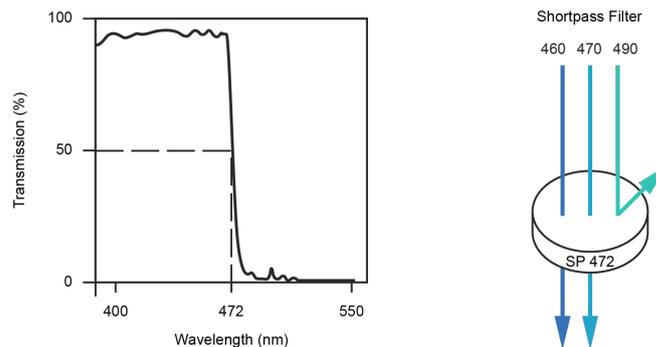

Figure A-6 472nm Shortpass Filter
Shortpass filters (SP) pass light with a shorter wavelength than the cutoff wavelength. For example, a 472nm shortpass filter allows wavelengths shorter than 472nm to pass through it and either absorbs or reflects wavelengths longer than 472nm (Figure A-6).